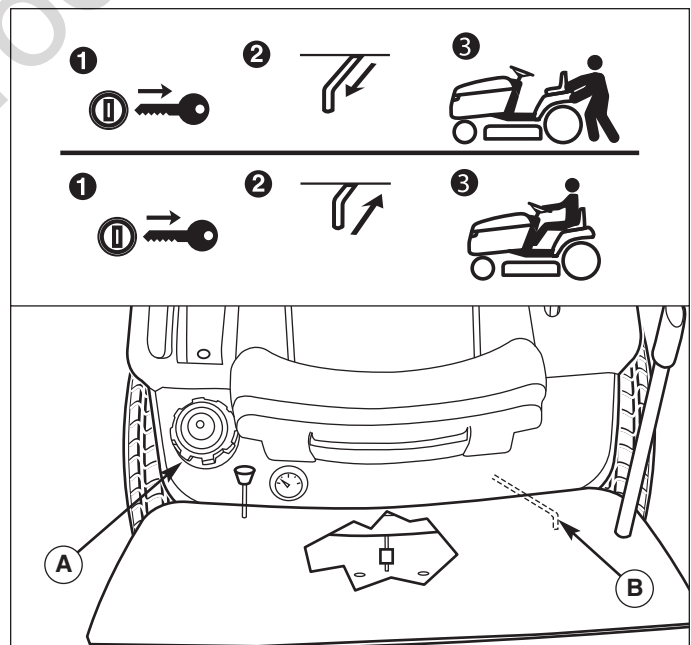

Figure 2.1. Transmission Release Lever (2WD)
1. Remove the fuel cap (A, Figure 2.1).
2. Pull the transmission release back approximately 2-1/2" (6 cm) to lock into released position (Figure 2.1).